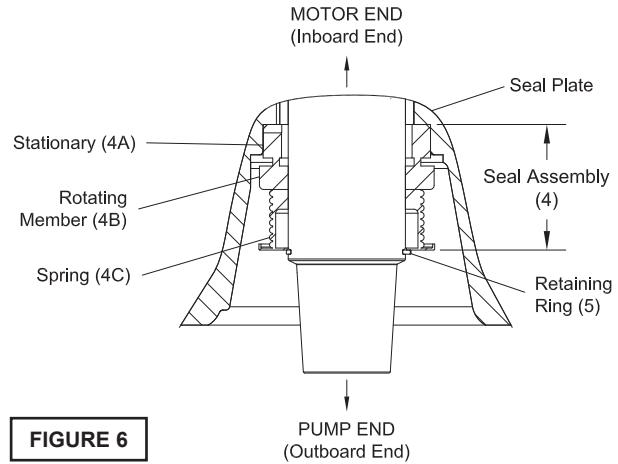

FIGURE 6
To expose outer shaft seal (4) for examination, remove Impeller and Volute per Section E-2.1. Set motor assembly (1) in the inverted position to prevent loss of oil. Remove snap ring from motor shaft, then retaining ring (5), spring (4C) and rotating member (4B) from shaft. See Figure 6. Examine all seal parts and especially contact faces. Inspect seal for signs of wear such as uneven wear pattern on stationary members, chips and scratches on either seal face. **DO NOT** interchange seal components, replace the entire shaft seal (4). If replacing seal, remove stationary (4A) from mounting plate by prying out with flat screw driver.